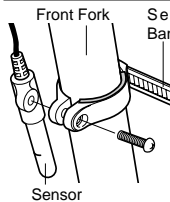

Fig.10
2. Mount the adjusted bands to the fork along with the sensor, by temporarily tightening the screw (Fig. 10).